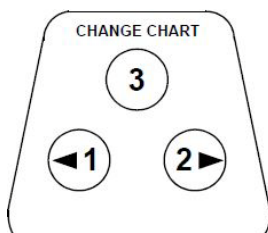

Figure 16. Pressure Sensitive Chart Buttons
2. Press and hold the change chart button (#3 in *Figure 16*) for one second. The pen will move off the scale.
3. Compare the recorder temperature to the solution temperature. If necessary, adjust the recorder by pressing the left and right chart buttons (#1 and #2 from *Figure 16*) for 5 seconds.